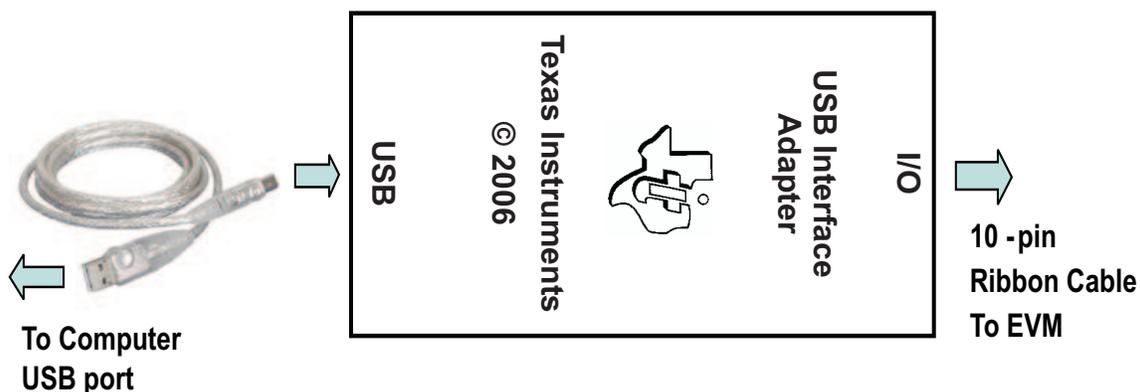

Figure 1. Connections of HPA172 Kit
8. Connect J4 to HPA172 kit by 10-pin ribbon cable. Connect the USB port of the HPA172 kit to the USB port of the computer. The connections are shown in Figure 1.